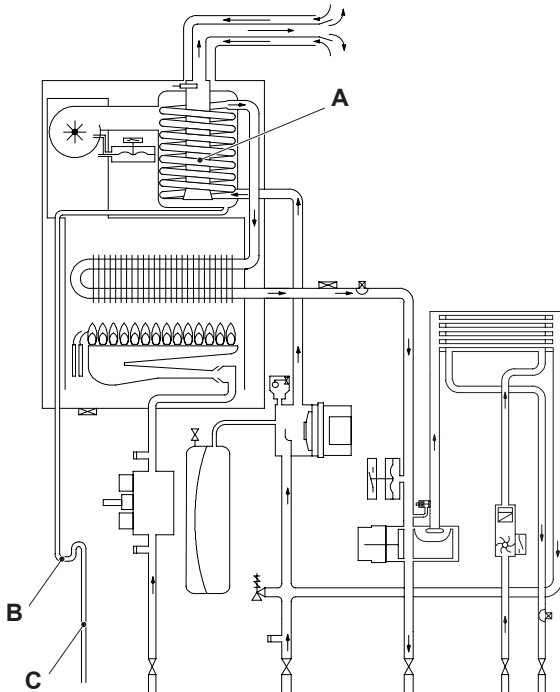
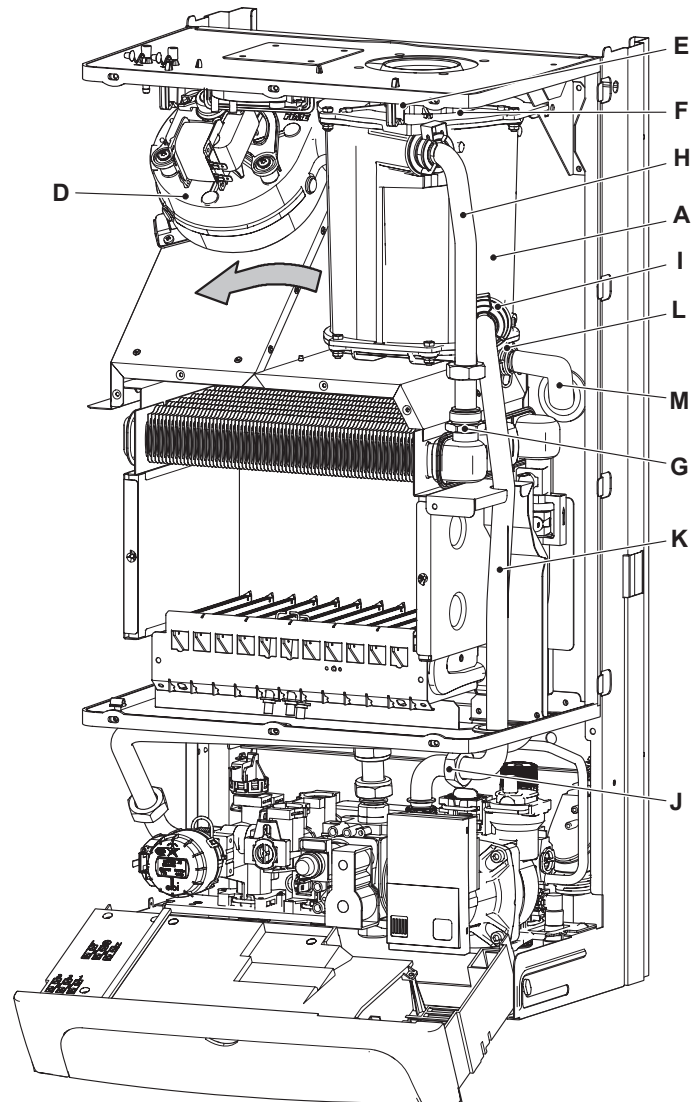

Figure 6.1
Figure 6.2
The return water flows through the condensing heat exchanger A in Figure 6.1 and Figure 6.2.
- 3 Remove the fan D in Figure 6.2 (see section "Removal of the Fan" page 37).